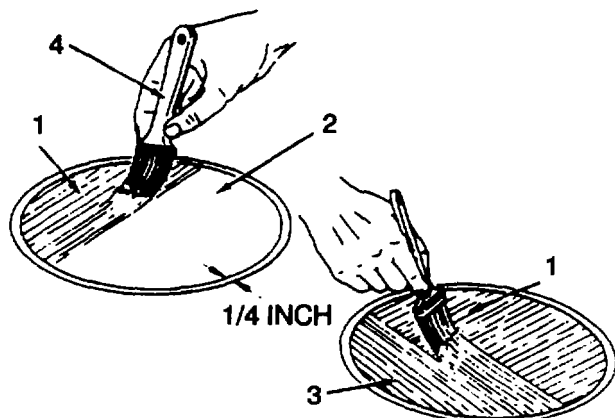

Figure 2-32. Applying Adhesive Over Previous Coat
(h) Apply a uniform coat of barrier adhesive (item 2, table 2-11 ) (1, figure 2-32) in one direction over previous coat of repair adhesive (2) to within no more than 1/4 inch of repair area of O.D. Use a brush. Remove any excess adhesive from unbuffered area. Use dean cloth (item 16, table 2-11) dampened with acetone (item 3, table 2-11). Wear gloves (item 4, table 2-11). Allow barrier to dry to touch.
(j) Carefully apply a uniform coat of barrier adhesive in one direction (1, figure 2-32) over previous coat of repair adhesive mixture (2). Use a brush (4). Remove any excess adhesive from unbuffed area. Use a dean cloth (item 16, table 2-11) and acetone (item 3, table 2-11). Wear gloves (item 4, table 2-11 ). Allow barrier to dry to touch.